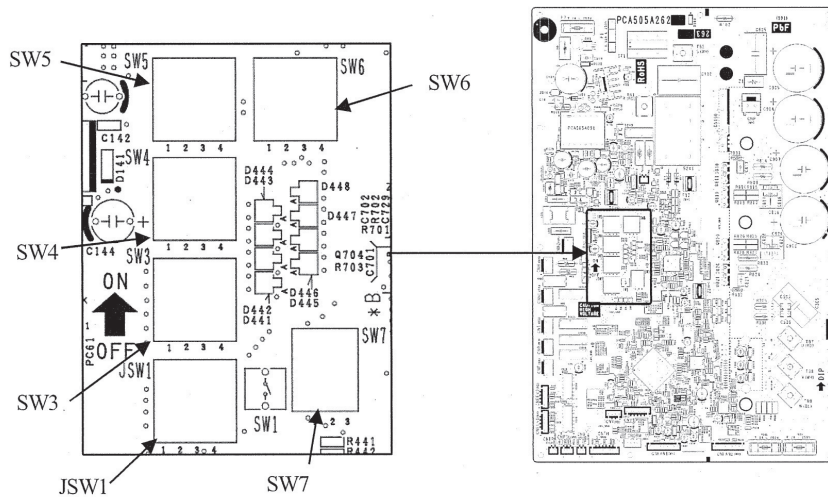

Fig 4 Switch position of main PCB
- a) Match the setting of new main PCB switches (JSW1, SW3-7) with former main PCB. (Refer to Fig.4)